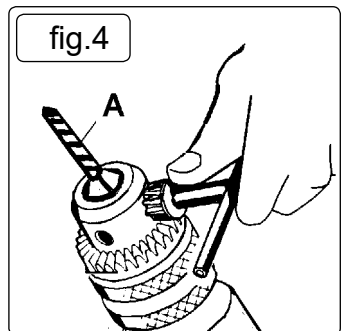

fig.4
- 5.1.2. Open or close the chuck jaws (fig.4) to a point where the opening is slightly larger than the drill or tool bit to be used. Insert the drill bit into the chuck as far as it will go. Use the chuck key to rotate the forward section of the chuck (fig.4) clockwise, in order to secure the drill bit.